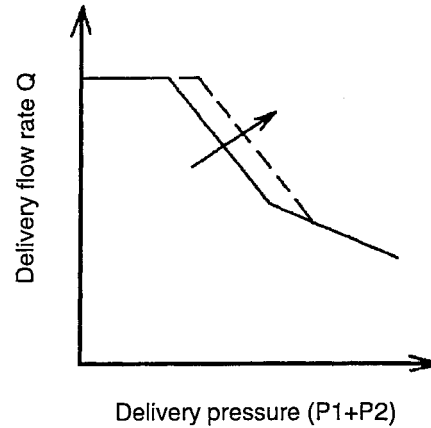

Fig.1-20 Adjusting the input horsepower (1)
Adjust them by loosening nut (801) and socket screw (924) (or loosening it). Socket screw causes the control chart to move to the right as shown in Fig.1-20. Socket screw raises the flow control start pilot pressure. And the delivery rate increases.